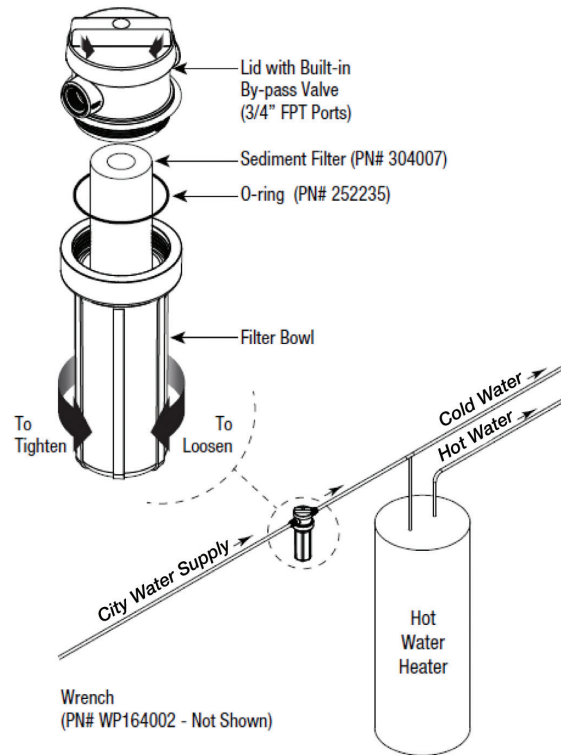

Figure 1: There are several ways to plumb your Whole House Filter into your existing water line. The diagram above is the basic install layout.
- Step 2** – The bowl of the system can be removed by turning it clockwise (see Figure 1). Use the supplied filter wrench to loosen the housing.
- Step 6** – Reinstall by turning the filter bowl counter-clockwise (see Figure 1) onto the lid. Make sure O-ring is properly seated.